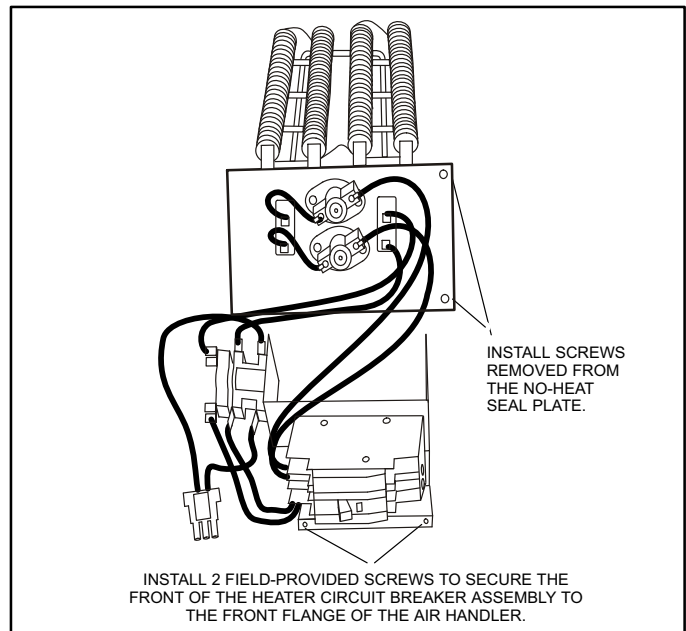

Figure 14. Installing the Heat Element Assembly
6. Secure the electric heater assembly with the screws that were removed from the heat element panel. Install two field-provided #8 self-drilling, self-taping (SDST) screws in the front of the electric heater assembly (see figure 14).